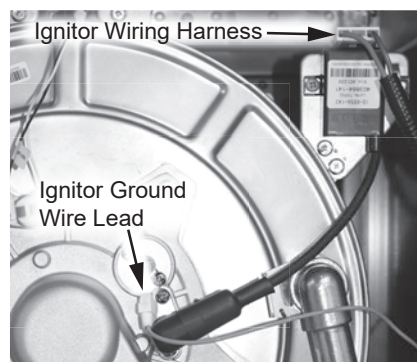

Figure 57 - Ignitor wiring harness location
**4** Locate the ignitor wiring harness and ignitor ground connection. See Figure 57. Disconnect them and move the wires aside.
**5** The wiring is held in place along the right side of the cabinet by three (3) plastic organizers. Remove the wiring from these keepers.
**6** Locate and remove the two (2) screws securing the grounding wires to the grounding plate. See Figure 57. Do not remove the third ground connection that is not part of the wiring assembly. Place screws aside in a safe place for reinstallation.